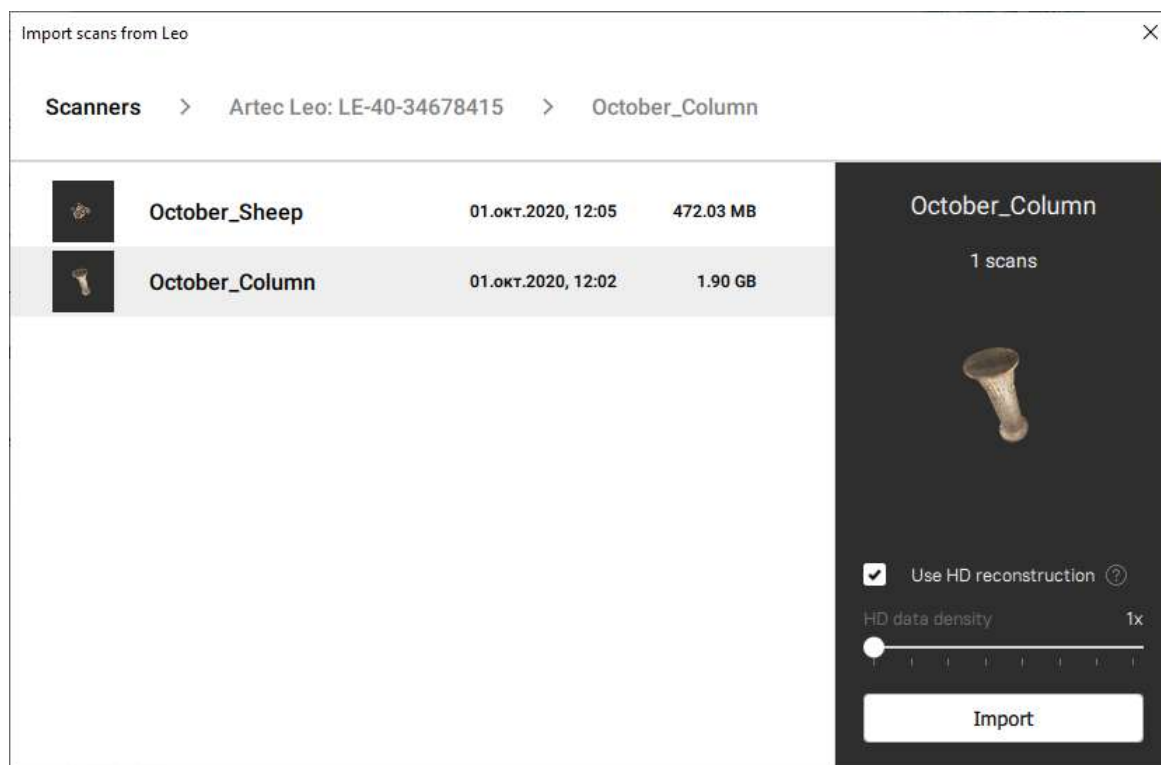

Figure 67: Dialog for selecting Leo projects to import.
5. Then using either LMB or ↑ and ↓ select the project that you want to load (Figure 67)